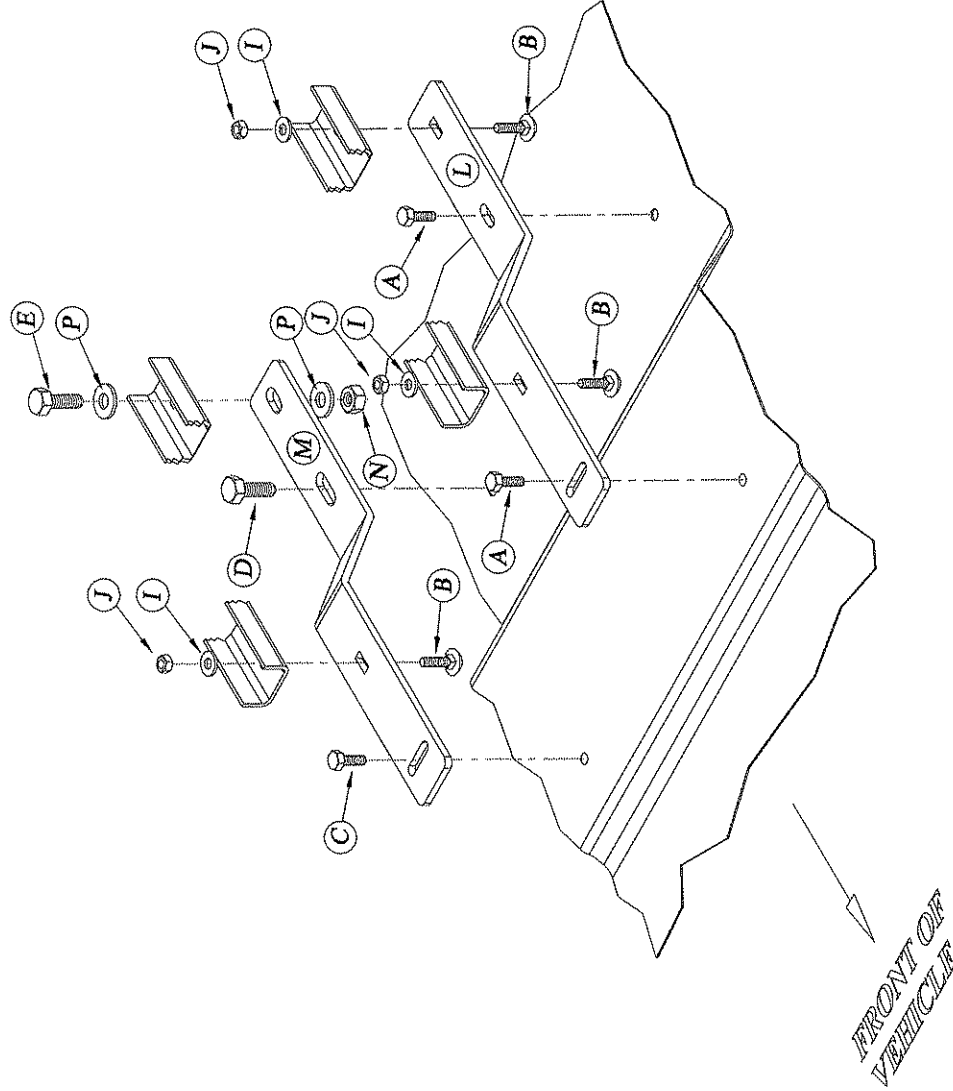

FIG. 1 DRIVERS SIDE INSTALLATION
1. Remove and save the (4) bolts holding seat frame to the floor. These will be reused when installing the new brackets.
3. Attach the left driver's side bracket (L) to the floor using (2) of the 5/16" bolts (A) that were removed in step 1, through the (2) elongated slot holes in the bracket as shown. **Do not tighten at this time.** From the bottom side of the bracket place (2) 5/16" x 1" carriage bolts (B) in the elongated slots as shown with the threads pointing upwards.
4. Attach the driver's side right bracket (M) to the floor using (1) 5/16" bolt (C) and (1) 7/16" bolt (D) that was removed in step 1 through the (2) elongated slot holes in the bracket as shown. **Do not tighten at this time.** Place the 5/16" carriage bolt (B) in the rear slot of the left big boy bracket as done in step 3. The front of the right bracket should be moved as far to the right as the slot will allow. Now the (2) bolts holding the right bracket to the floor can be fully tightened.
5. Place the seat on the new brackets allowing the protruding carriage bolts to go through the seat frame. Once the seat frame is located with all three carriage bolts protruding through the seat frame place 7/16" Hex Head Grade 8 Bolt (E) with washer (P) down through seat frame. Below Bigboy bracket place another washer (P) with machine nut (N) on bolt (E) as shown in Fig. 1. The washers (I) may be placed over the carriage bolts and tightened using the appropriate machine nuts (J) that are provided. The 7/16" machine nut (N) is provided for the 7/16" Hex head Grade 8 Bolt. At this time fully tighten all of the remaining nuts and bolts.